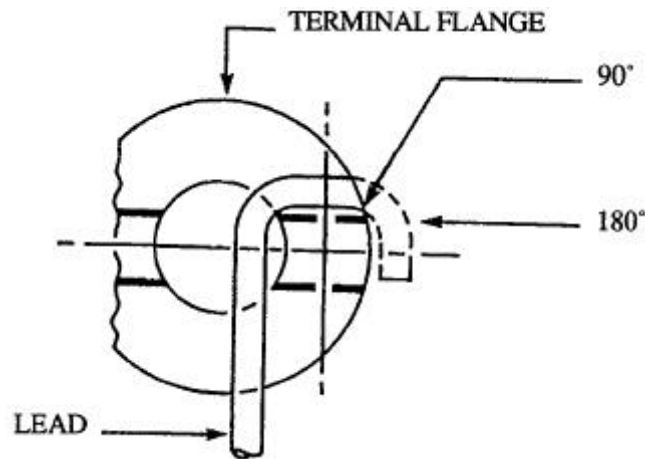

Figure 9-7. Lead Wrap
- b. A conductor may lay straight through a terminal slot provided the conductor surface remains in contact with the terminal surface (Figure 9-6A). Where conductors are wrapped on a terminal post, they shall wrap a minimum of 90° and a maximum of 180° (1/4 to 1/2 turn); refer to Figure 9-7.